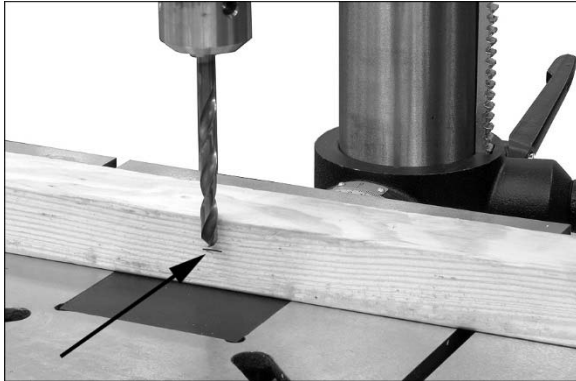

Figure 22
Refer to Figures 22 and 23.
1. Mark the desired depth of cut on the side of the workpiece (Figure 22).